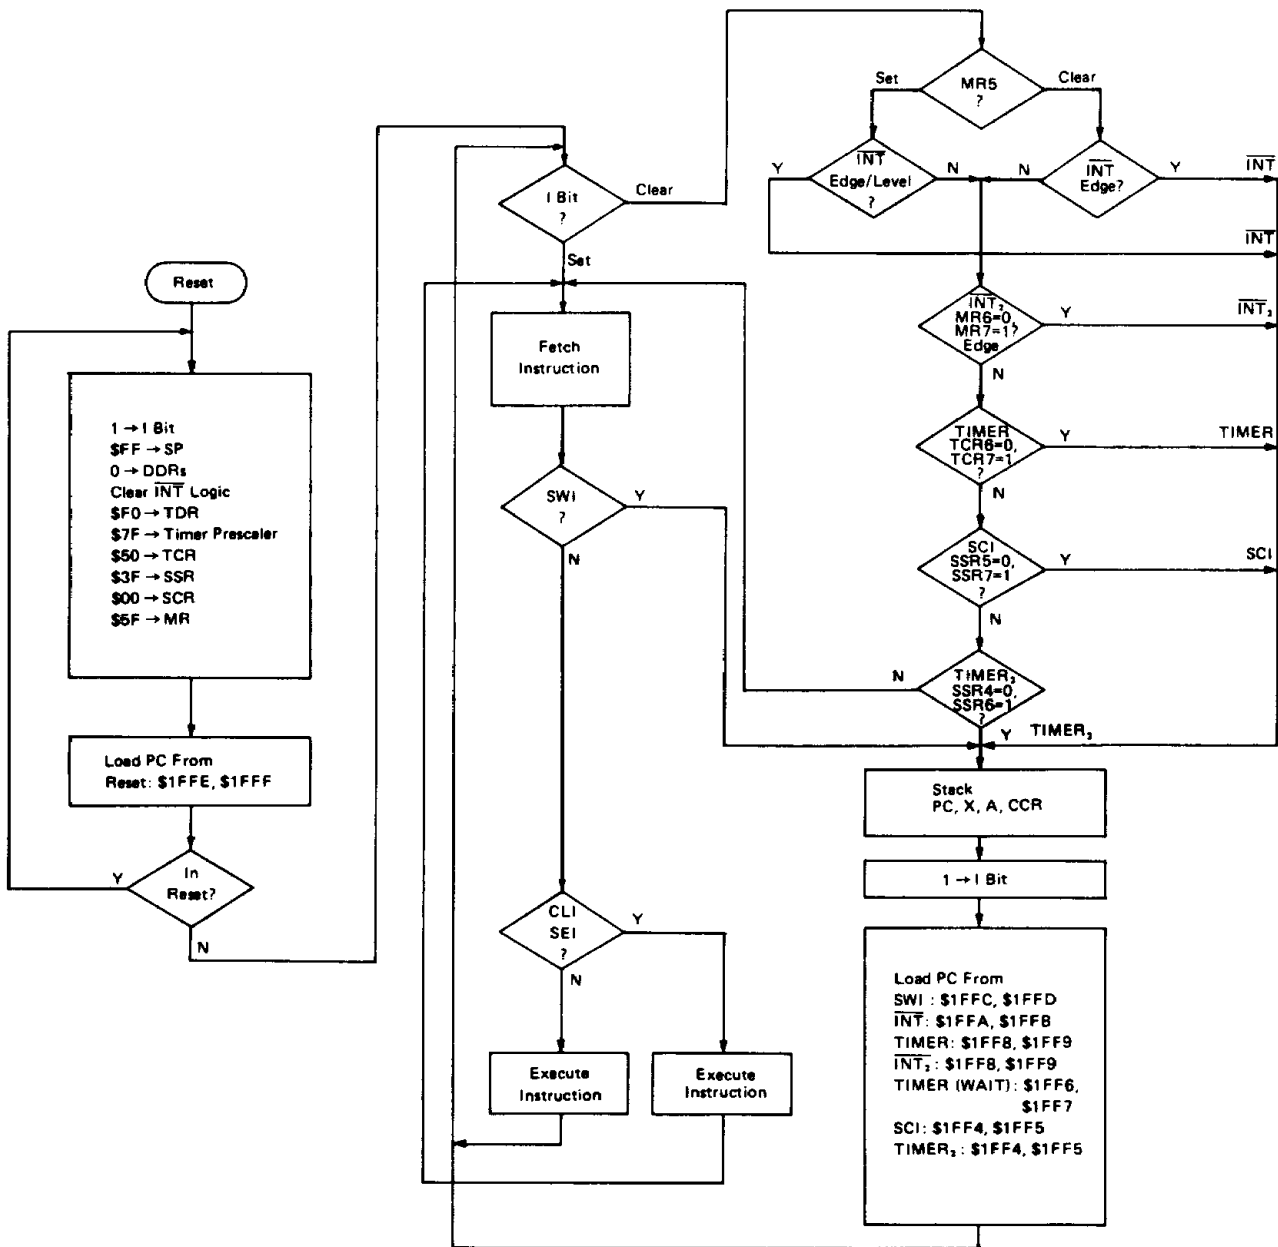
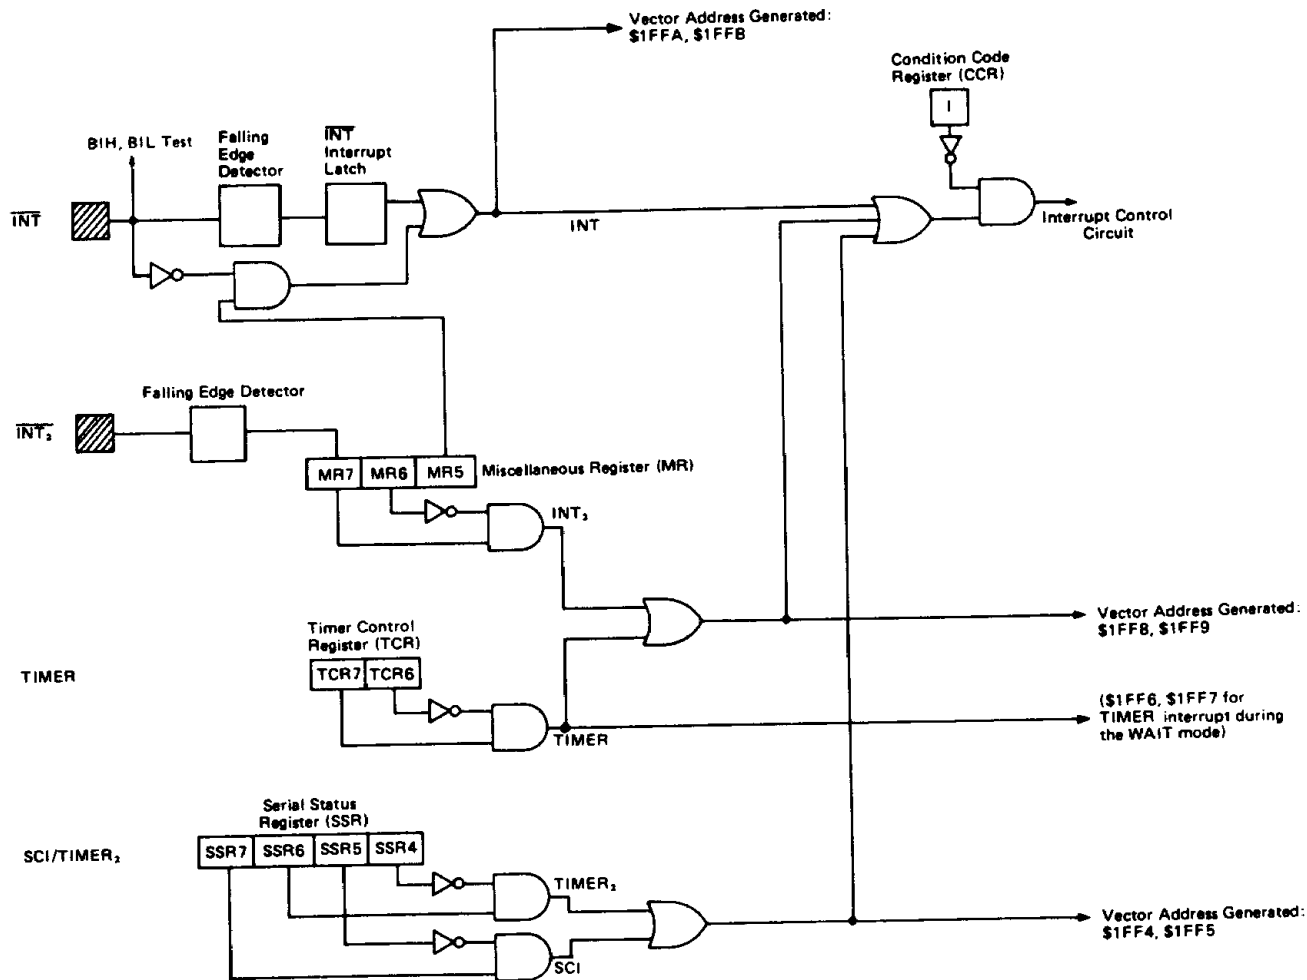

Figure 7 Interrupt Flowchart
Figure 8 Interrupt Request Generation Circuitry
A flowchart of the interrupt sequence is shown in Fig. 7. A block diagram of the interrupt request source is shown in Fig. 8.
In the block diagram of Fig. 8, the external interrupt  $\overline{INT}_2$  is a falling edge trigger input, whereas, the external interrupt  $\overline{INT}$  can be configured as a falling edge trigger input or a combination of falling edge and low level trigger input, depending on the status of bit 5 in the miscellaneous register (MR). When an interrupt request is detected at the  $\overline{INT}_2$  or  $\overline{INT}$  inputs, an interrupt re-